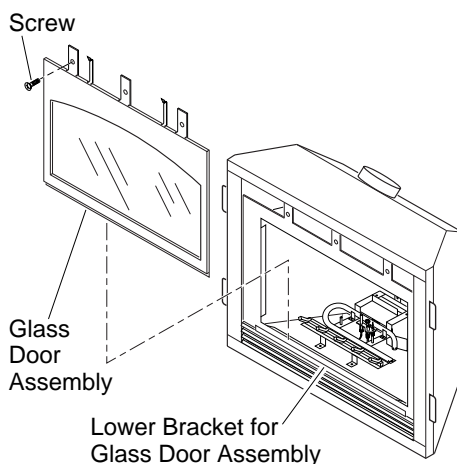

Figure 41 - Removing/Replacing Glass Door
3. Grasp door by both sides and ease it upward off of the lower bracket (see Figure 41).